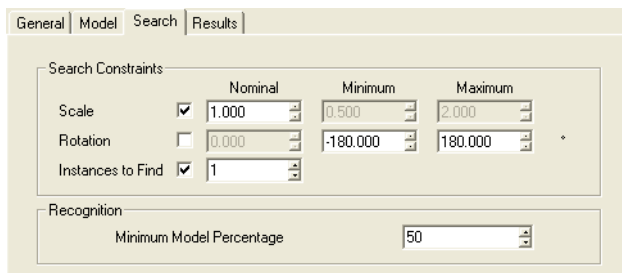

Figure 61 Search Panel of the Locator Tool
4. Leave all the other parameters to their default setting also, as shown in Figure 61.